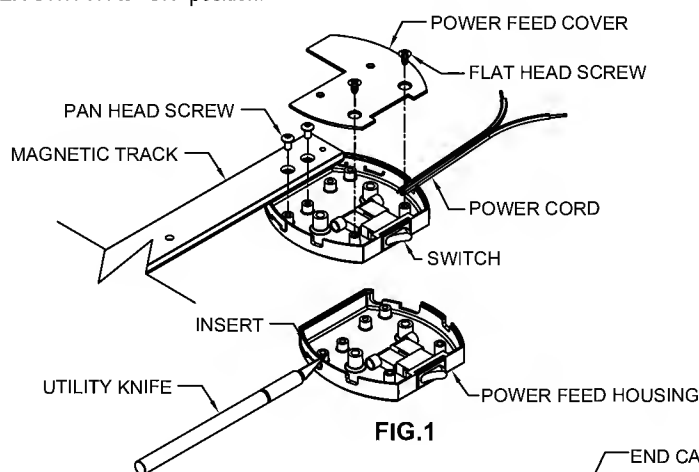

FIG.1
2. Remove POWER FEED COVER by unscrewing (2) FLAT HEAD SCREWS that hold it in place. Then unscrew (2) PAN HEAD SCREWS that hold MAGNETIC TRACK to POWER FEED HOUSING (retain all screws). Cut-out INSERT in POWER FEED HOUSING with a UTILITY KNIFE as shown. Reverse MAGNETIC TRACK, POWER CORD and POWER FEED COVER direction over to other side and re-screw MAGNETIC TRACK and POWER FEED COVER down with SCREWS retained from earlier (FIG.1).